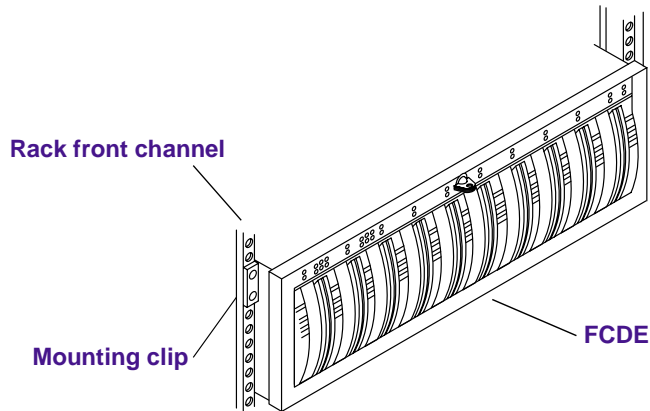

Figure 1-6 Installing an FCDE
2. From the front of the rack, slide an FCDE into the bottom set of support rails. Push the FCDE in until the mounting clips on the side of the FCDE touch the rack front channel. Make sure that the back corners of the bottom panel slip under the hold-down clips at the back of the rails (see Figure 1-6).